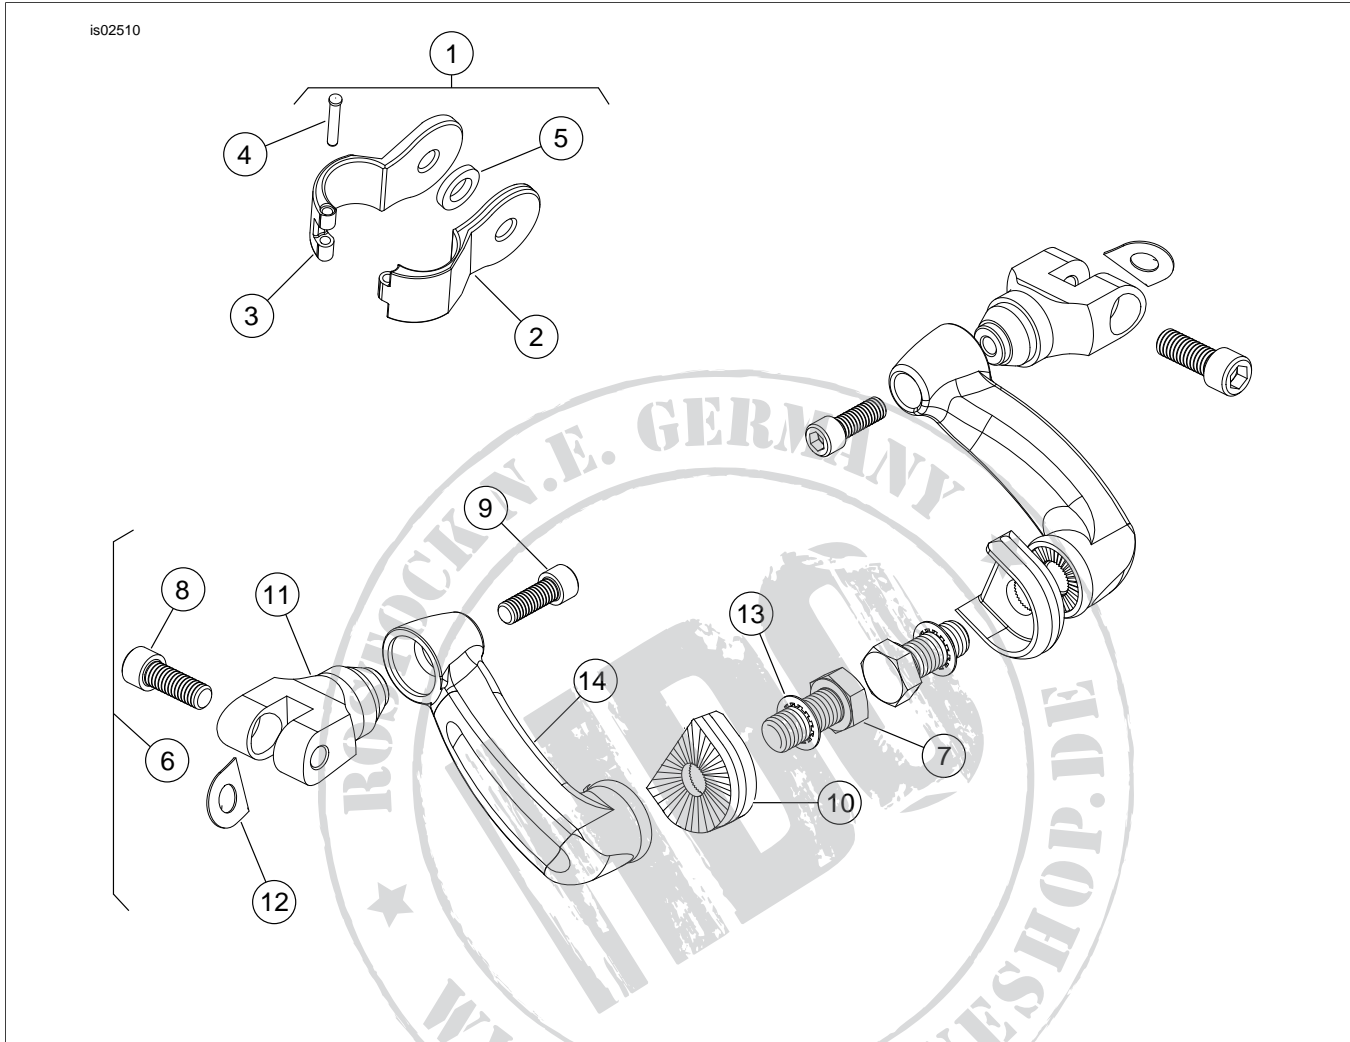

Figure 2. Service Parts: Adjustable Highway Footpeg Mounting Kits
See Figure 2 and Table 1.
See Figure 2 for steps 2 through 6.
2. See Figure 2. Obtain clamp assembly (1) from kit. Wrap the clamp halves around the engine guard and install with hinge pin head facing upward. Place the flatwasher between the ears of the clamp halves. Hold parts in position.
3. Obtain the lockwasher (13), screw (7) and one of the footpeg extensions (14) (long or short depending on kit number) from kit.
4. Position the clamp adapter (10) over the clamp assembly (1) with the "cogged" face of the adapter facing the extension arm (14). Hold clamp adapter in place.
5. Install screw (7) with internal tooth lockwasher (13) through the clamps, the clamp adapter (10) and into the extension arm (14). Position extension arm as desired. Do not tighten completely at this time.
6. Obtain the clevis/extension assembly (6) from kit. Position assembly such that footpeg pivots upward and toward the rear of the bike. NOTE: It may be necessary to loosen the screw slightly and rotate the extension to obtain this position. Tighten item 9 securely.